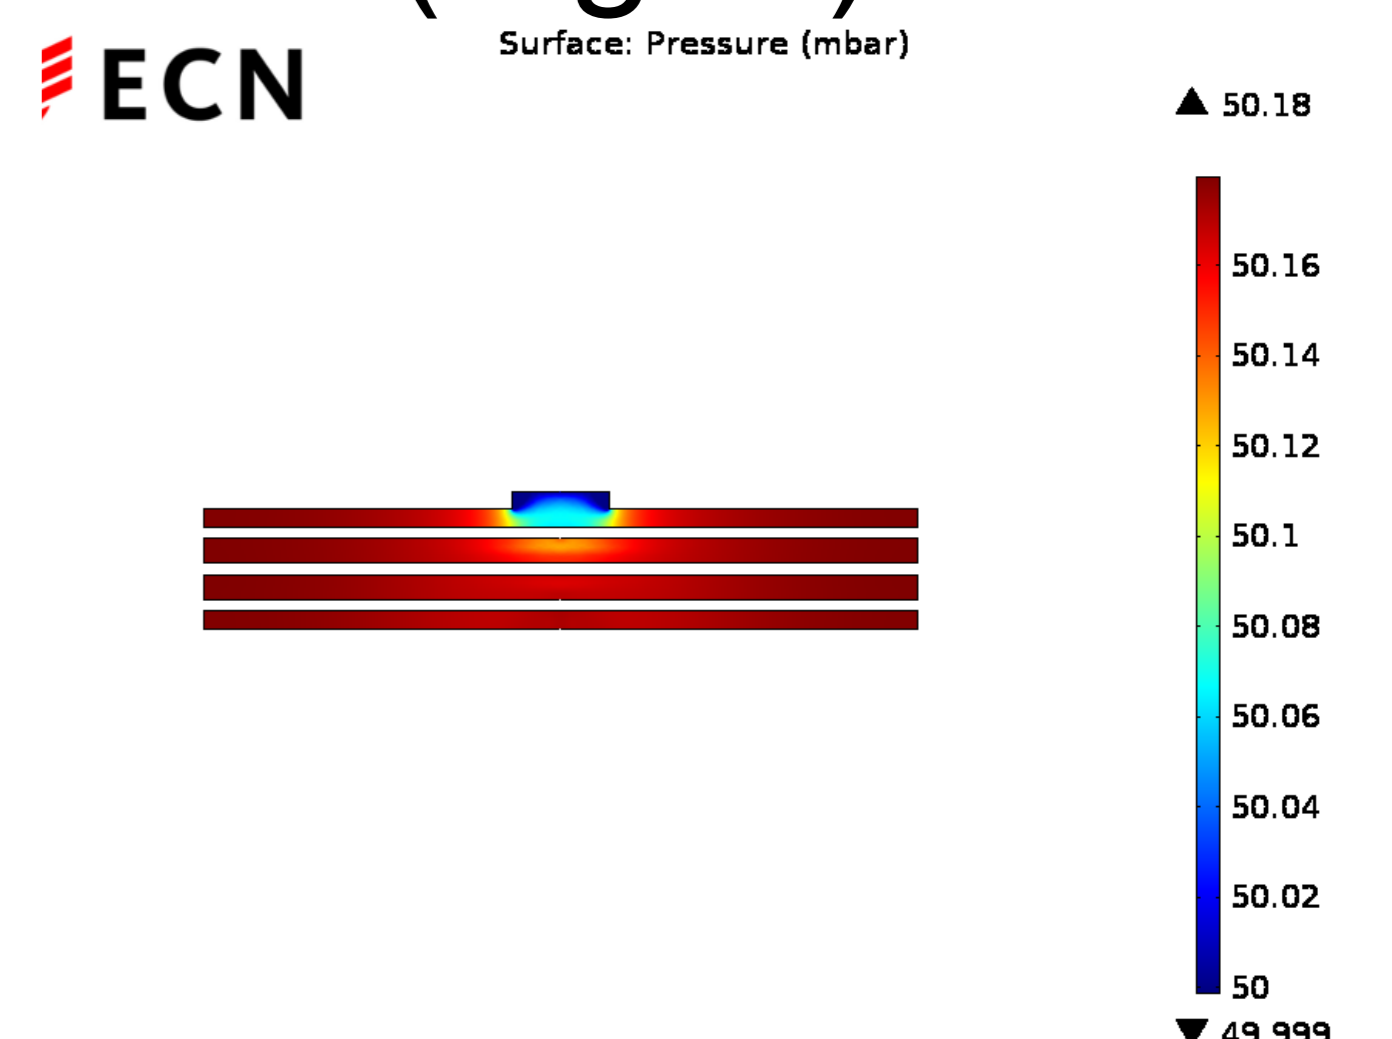

Figure 6. Pressure 19x4
- Pressure drop 0.2 mbar (Fig. 6)